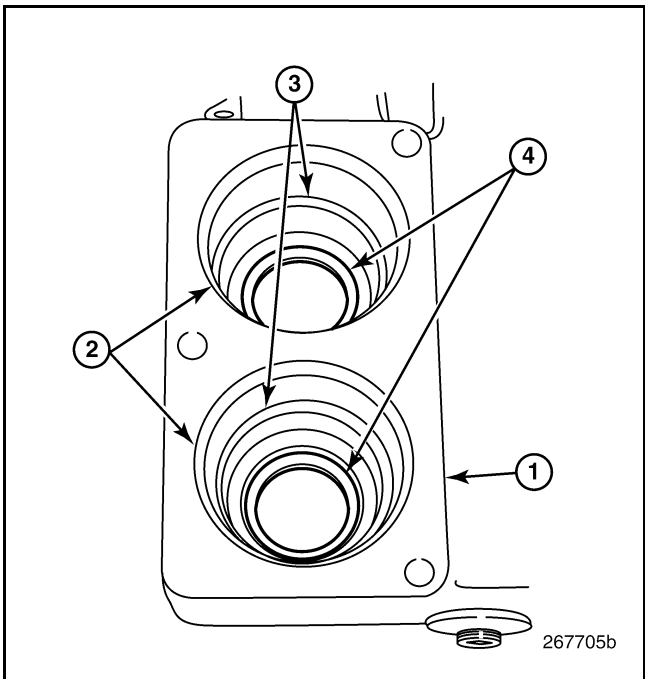

Figure 469 — Wear Rings Installed
1. Check to see that the stainless steel wear rings/shields are properly installed in the thermostat housing (Figure 469).